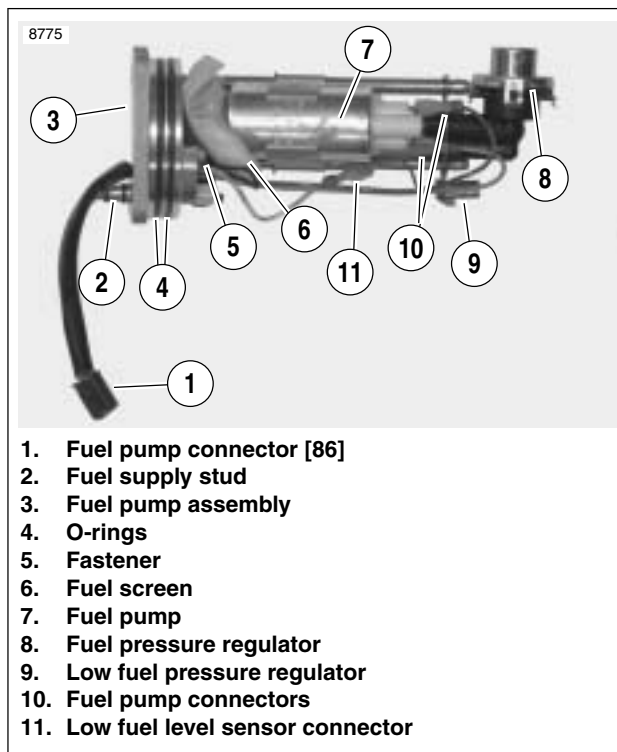
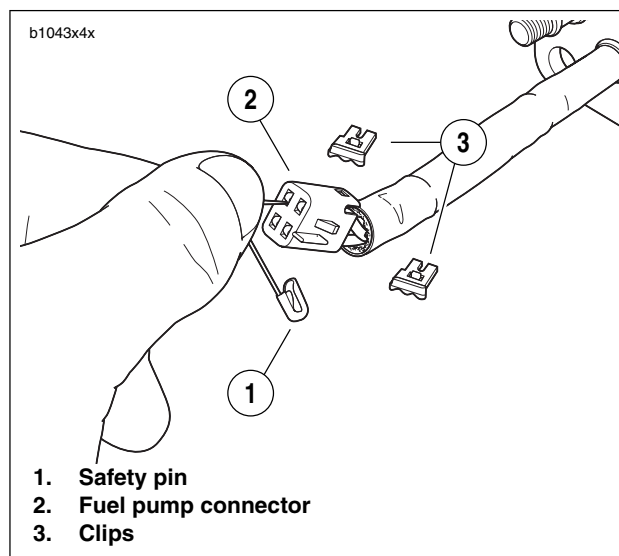
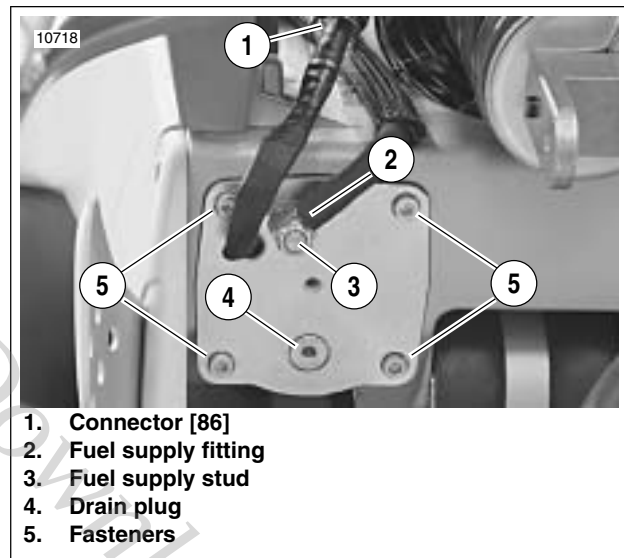

Figure 4-88. Fuel Pump Assembly (left side)
Figure 4-92. Fuel Pump Connector Disassembly
Figure 4-94. Fuel Pump Installation
2. See Figure 4-88. Pry four tabs of clip holding fuel pressure regulator (8) in place. Detach regulator from regulator housing.
4. See Figure 4-88. Disconnect fuel pump connectors (10) and low fuel level sensor connector (11).
6. Pry fuel screen (6) from fuel pump (7).
11. See Figure 4-88. Connect low fuel level sensor wiring (11).
12. Connect fuel pump connectors (10). Connectors are two different sizes.
4. See Figure 4-88. Disconnect fuel pump connector (10) and low fuel level sensor connector (11).
- a. See Figure 4-92. Remove connector clips (3).
- b. Insert push pin/safety pin (1), into connector as shown.
8. See Figure 4-88. Remove screw (5).
11. See Figure 4-88. Insert **new** fastener (5), through ground wire terminal and secure to fuel pump assembly. Tighten to 18-22 **in-lbs** (2.0-2.5 Nm).
16. See Figure 4-88. Connect low fuel level sensor connector (11).
17. Connect fuel pump connectors (10). Connectors are two different sizes.
1. See Figure 4-88. Replace o-rings (4). Lubricate **new** o-rings with **clean** engine oil.
2. Install **new** o-rings on fuel supply stud (2). Larger o-ring is located in groove closer to fuel pump.
3. See Figure 4-94. Insert fuel pump into frame until resistance is felt.
4. Insert four screws (1) through fuel pump and into frame.